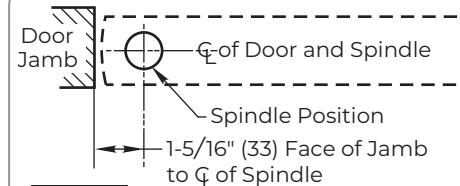

Figure 2
3. Mark frame header and door for top pivot. (Figure 2) Using template PS30210, note the requirement for door radius on heel edge of door.